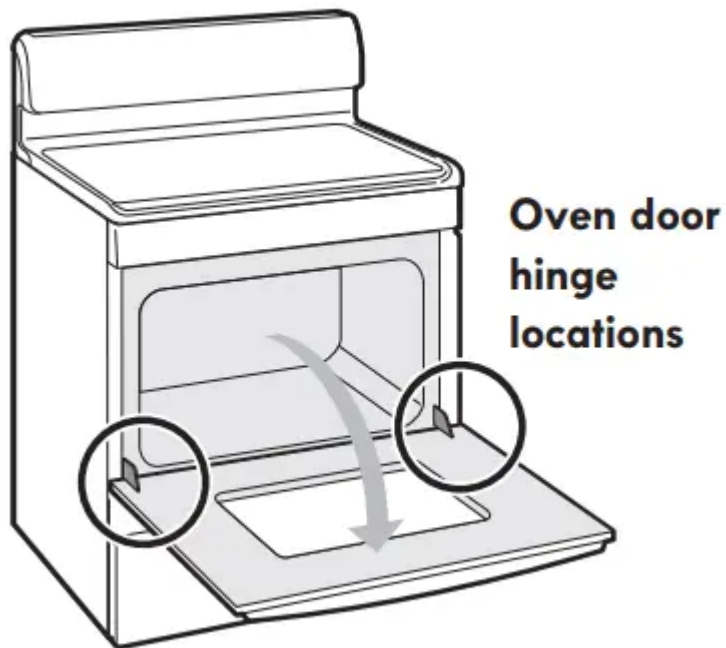

Figure 26: Door hinge location
3. Fully open the oven door, horizontal with floor (See Figure 26).